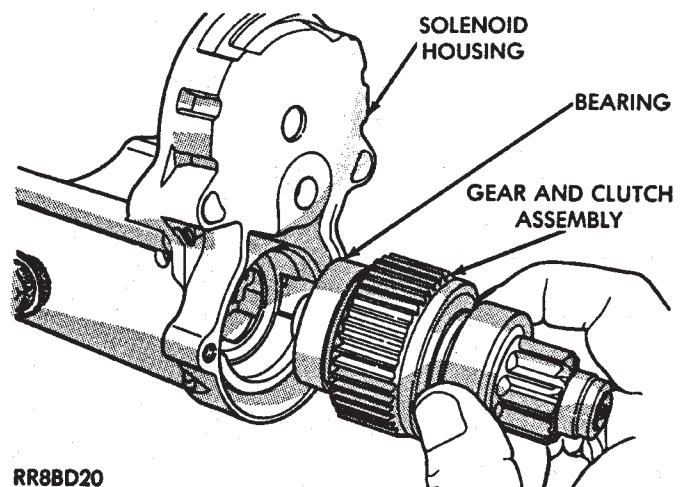

Fig. 13 Gear and Clutch Assembly
(2) Remove the starter gear and clutch assembly from the solenoid housing (Fig. 13).
(3) For installation, reverse above procedures.